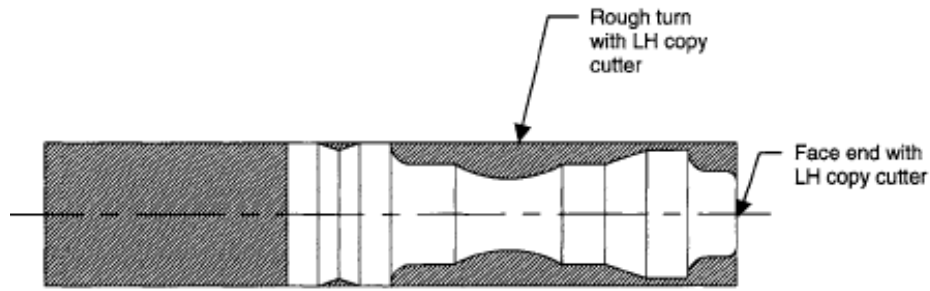

Figure 3 Facing and roughing out of example part
- For the component shown below, determine what tooling would be required to turn it. The brass billet is represented by the rectangle that is 100mm x Dia.20mm. Therefore, the material to be removed is the shaded area in both Fig.3&4. The part is to be turned on a small bench lathe. To produce this part four distinct operations have been identified as detailed below. Identify the tooling required to produce this part.